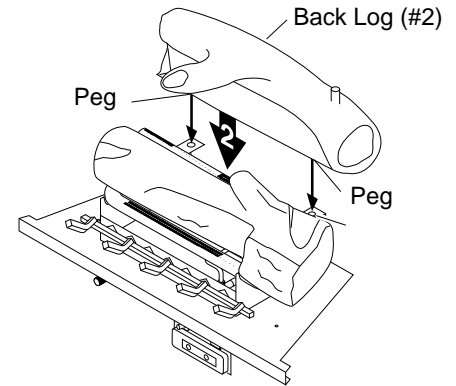

Figure 44 - Installing Back Log (#2)
2. Locate pegs on the bottom of back log (#2). Slide these pegs into the holes in the grate base behind the burner (see Figure 44).